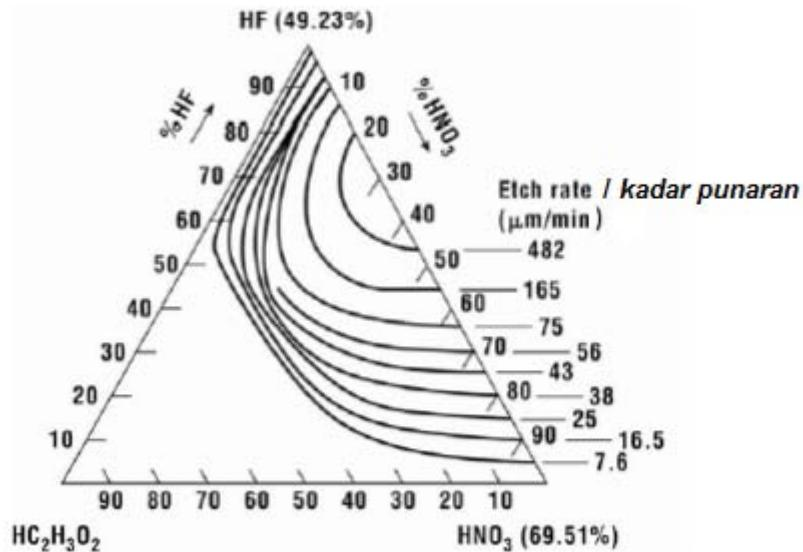

Figure 2: Schematic diagram of the etch rate for silicon in HF and HNO3 at room temperature
5. [a] An etching solution containing mixture of  $\text{HNO}_3$  (69.51%), HF (49.23%), and  $\text{HC}_2\text{H}_3\text{O}_2$  is used to etch silicon. If the solution consisting of 3 parts of  $\text{HNO}_3$ , estimate the HF and  $\text{HC}_2\text{H}_3\text{O}_2$  content to obtain an etch rate of 56  $\mu/\text{min}$  at room temperature. Refer to Figure 2 for etching rate of silicon in HF and  $\text{HNO}_3$ .